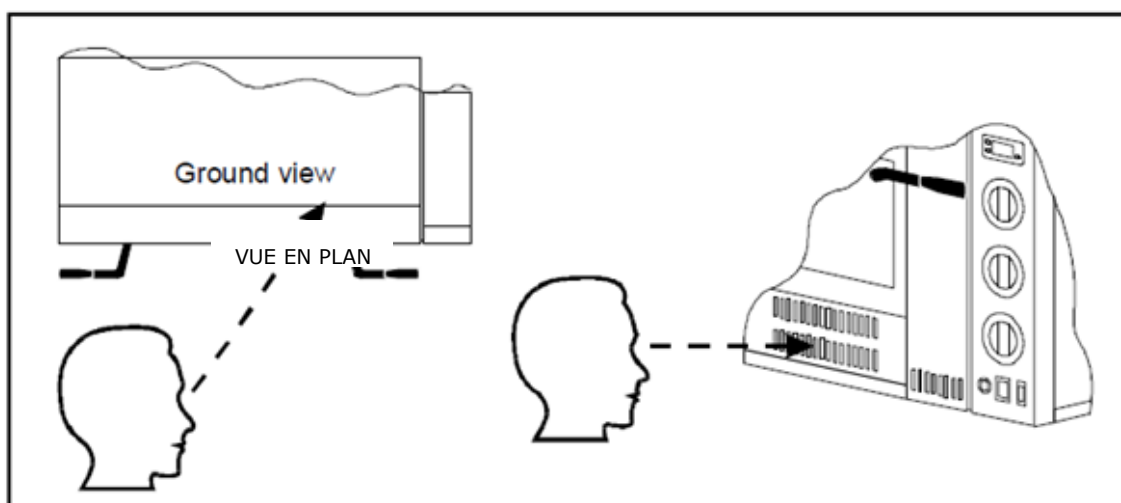

FIG.15 (CONTRÔLE VEILLEUSE)
- 5) TOURNER LA MANETTE DU ROBINET GÉNÉRAL D'ALIMENTATION DU GAZ (FIG.14-RÉF.4) SUR LA POSITION MAINTENIR LA MANETTE ENFONCÉE ET PRESSER EN MÊME TEMPS PLUSIEURS FOIS L'ALLUMAGE PIÉZOÉLECTRIQUE DE LA VEILLEUSE (FIG.14-RÉF.5). DÈS QUE LA VEILLEUSE S'ALLUME, RELÂCHER LA MANETTE. LA VEILLEUSE DOIT RESTER ALLUMÉE SI NON RÉPÉTER L'OPÉRATION. ON PEUT CONTRÔLER LA VEILLEUSE PAR LES OUVERTURES SITUÉES SUR LE COTÉ DROIT DU PANNEAU FRONTAL (FIG.3-RÉF.2) EN REGARDANT VERS L'INTÉRIEUR EN OBSERVANT UNE INCLINAISON DE 45° ENVIRON VERS LA DROITE (FIG.15)